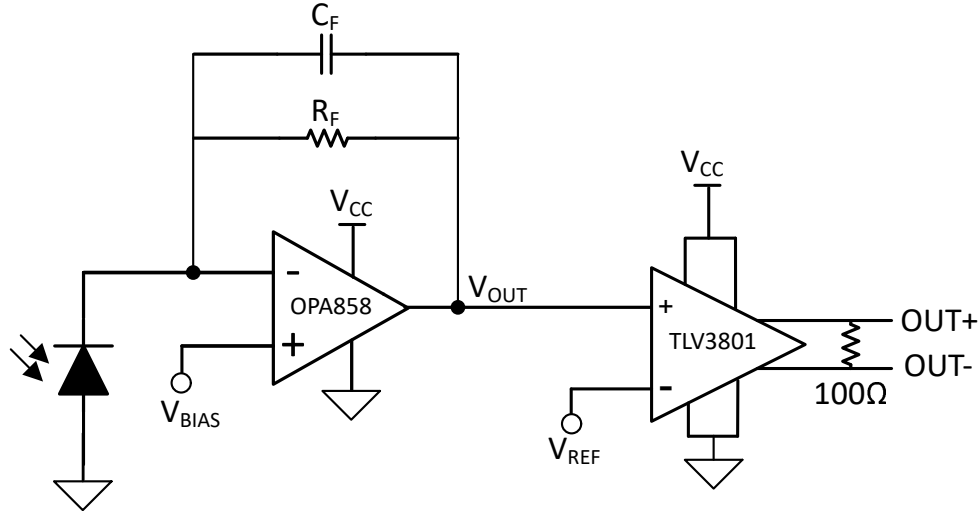

图 8-1. Optical Receiver
The TLV380x/TLV3811(C) can be used in conjunction with a high performance amplifier such as the OPA858 to create an optical receiver as shown in the 图 8-1. The photodiode operates in photoconductive mode: exposure to light will cause a reverse current through the photodiode. A bias voltage is applied to the op amp's non-inverting input to prevent saturation at the negative power supply. The OPA858 takes the current conducting through the diode and translates it into a voltage for a high speed comparator to detect. The TLV380x/TLV3811(C) will then output the proper LVDS signal according to the threshold set (V_{REF}).